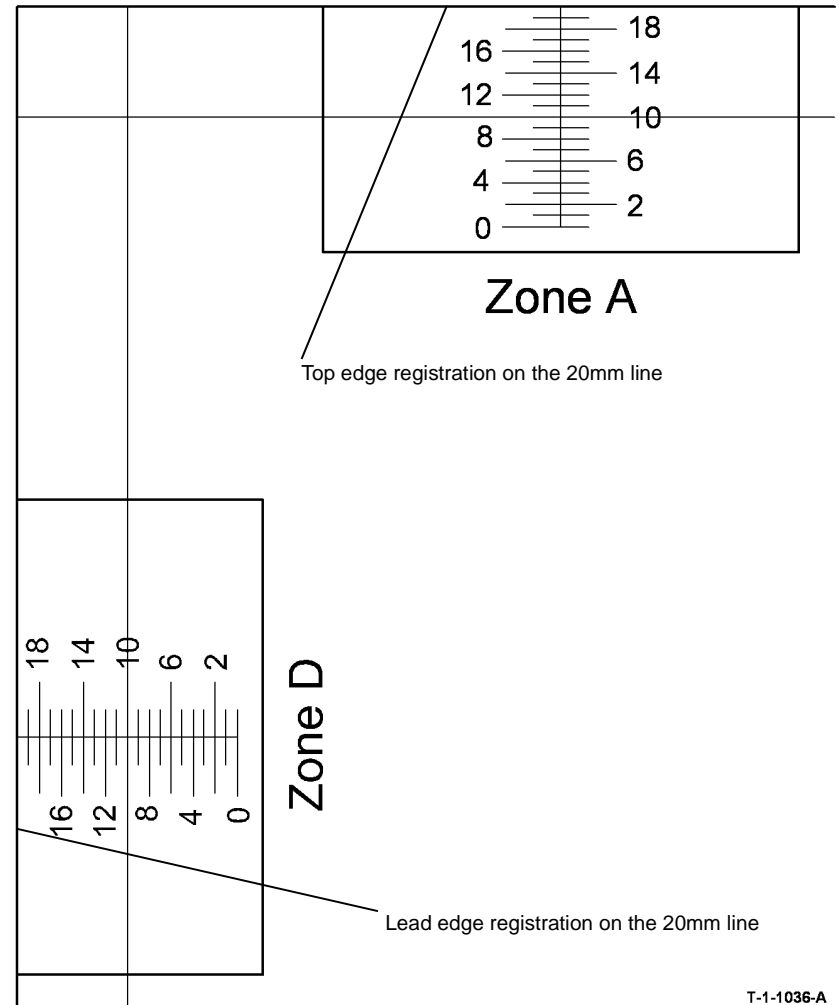

Figure 2 IOT registration
- a. Compare the zones A and D on the test samples, with those in Figure 2.
For example. If the top edge of the paper aligns with the 20mm mark on zone A (20 mm indicates correct IOT registration, Figure 2) then enter 20mm. If the top edge aligned with the 15mm mark then enter 15mm.
NOTE: *To obtain the correct scanner registration. Check that the registration on the IOT test samples is correct, Figure 2. If not correct then return to step 3.*
NOTE: *To obtain the correct DADH registration. Check that the registration on IOT test samples is correct, Figure 2. If not correct then return to step 3.*
8. Take samples from each tray using the individual tray select button and check the lead edge and top edge registration is within specification, Figure 2. If the top edge registration is not correct on individual trays then go to step 9.
Make the adjustments, then press Print Test Samples. When the top edge of the paper aligns with the 20mm mark on zone A, the registration is correct, Figure 2.